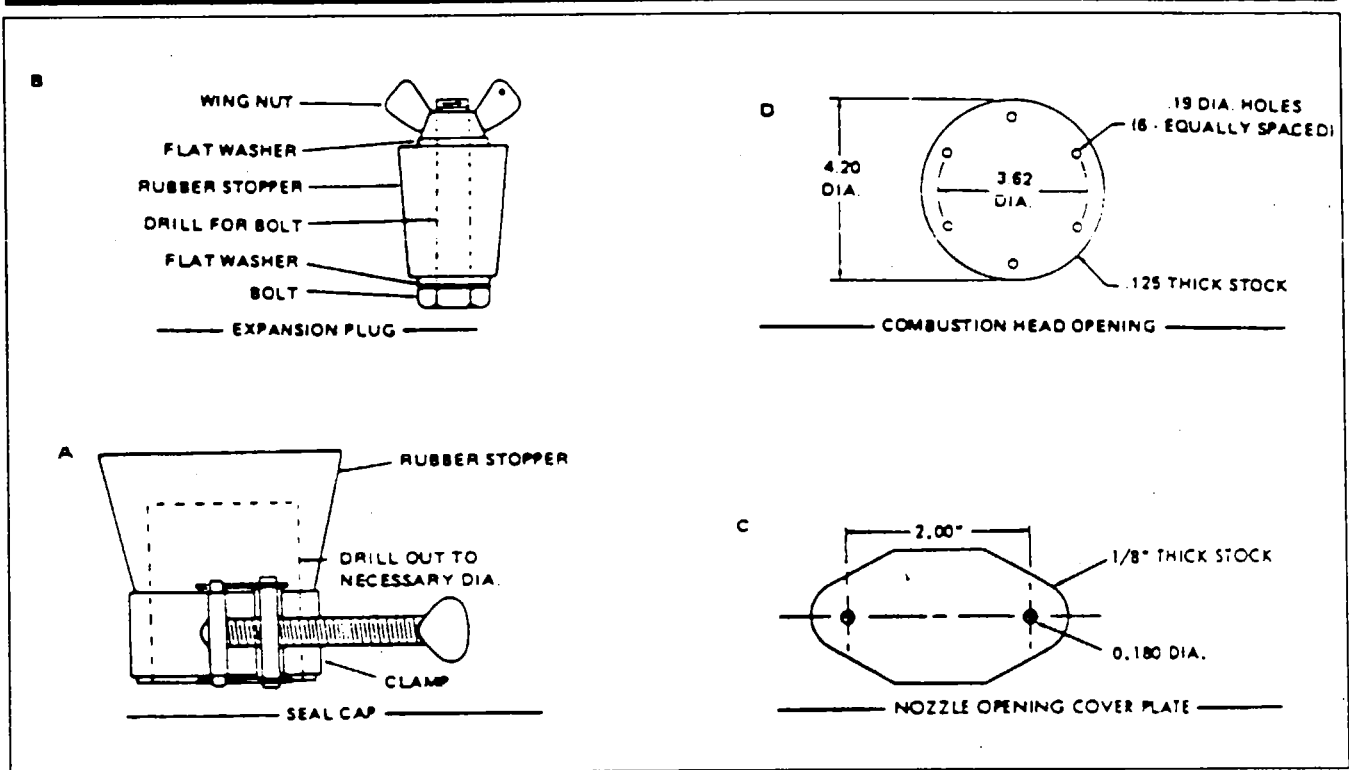

Figure 21-10. Suggested Design for Seal Plate, Plugs and Caps for Combustion Tube Leakage Test
- A. Fashion a sealing plate from approximately .125 inch thick flat stock to seal the nozzleholder opening in the combustion tube assembly. (Refer to Figure 21-10.) Use a rubber gasket under the plate and attach the plate with two screws.
- B. Make up seals for all remaining openings, except the one used to connect the air pressure source. (Refer to Figure 21-10.) Use rubber stoppers as shown. The combustion air inlet tube can be sealed best with a drilled stopper and clamp. Other openings should be sealed with expansion plugs. The seal used in the exhaust tube should be formed so that it will not deform the air pressure switch tube which protrudes into the exhaust.